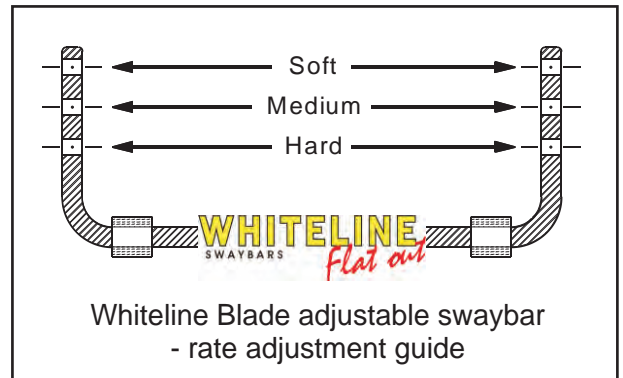
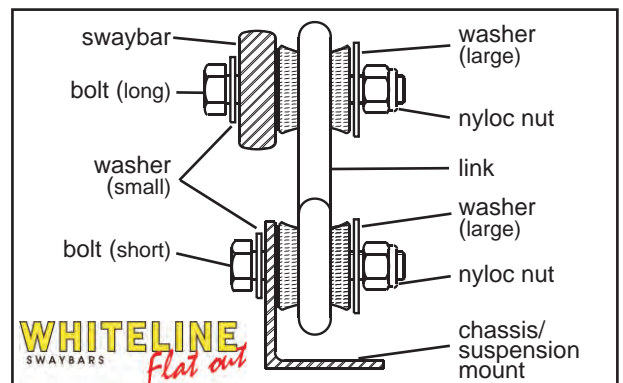

Figure 1.
Figure 2.
11. Using new bolts, washers and links, connect the swaybar to control arm brackets, as shown in photo 1 and figure 2. Refer to figure 1 for swaybar adjustment guide.